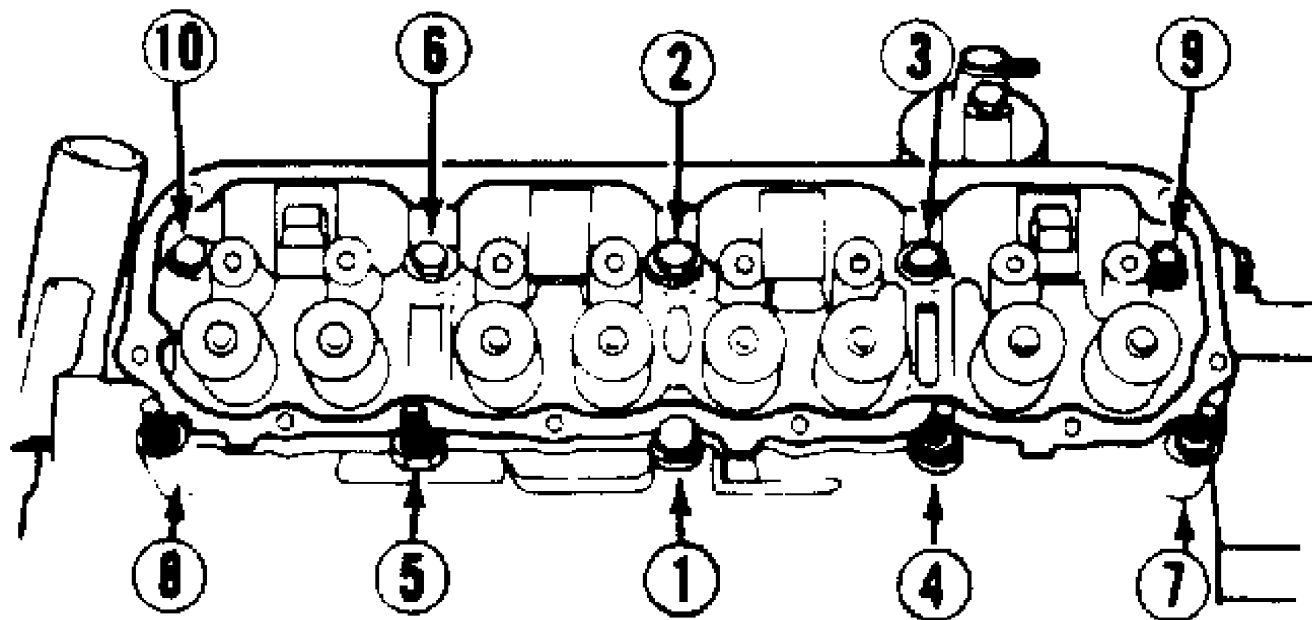

Fig. 2: Cylinder Head Bolt Tightening Sequence
2) Install cylinder head. Apply sealing compound to threads of cylinder head bolt No. 8 prior to installation. See Fig. 2. Install head bolts. Tighten all bolts in sequence (except No. 8) to 110 ft. lbs. (149 N.m). Tighten No. 8 head bolt to 100 ft. lbs. (136 N.m). See Fig. 2.